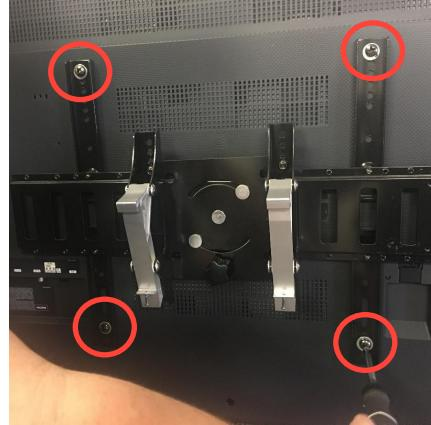

Figure 8 - Bracket mounted on monitor
- Secure bracket to monitor with the 4 bolts with washers using a Philips head screwdriver in the locations circled in red in Figure 8